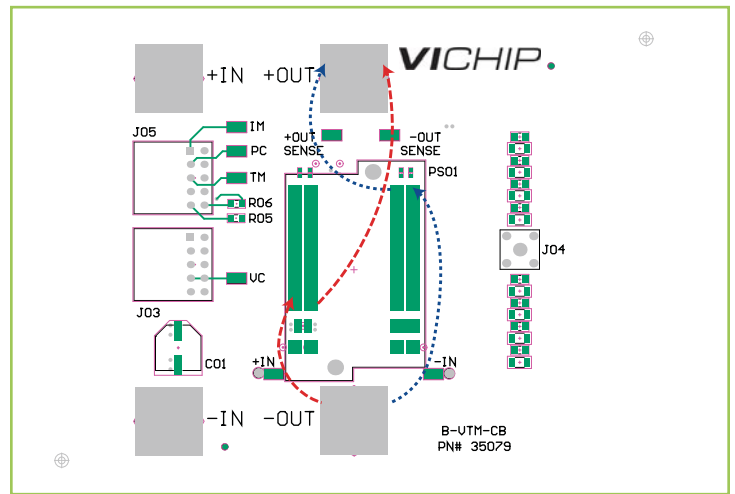

Figure 22 — Equal current path
- The total current path length from any point on the V_{+OUT} J-leads to the corresponding point on the V_{-OUT} J-leads should be equal (see Figure 22) .